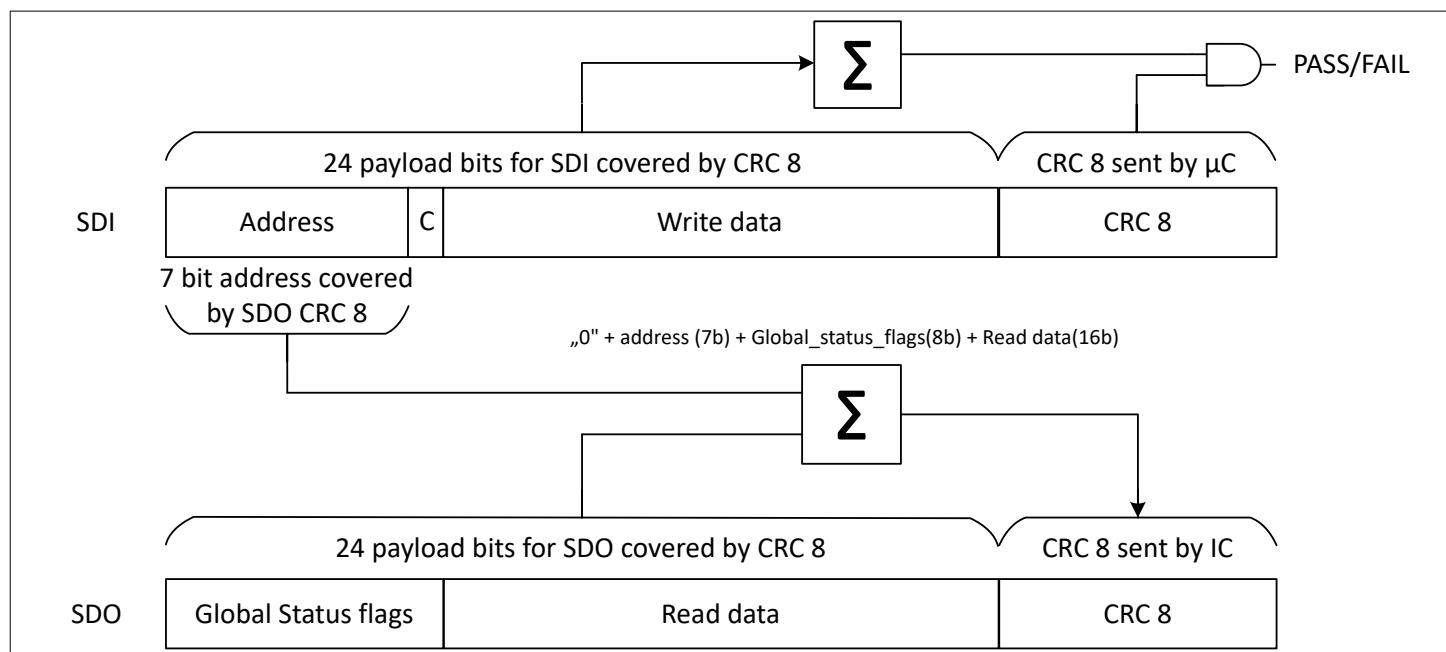

Figure 20 SPI CRC8 calculation for in-frame response (IFR)
- For SDO in-frame response the CRC8 is calculated for a 32 bit payload consisting of: dummy "0" bit + received 7 bit address (current frame) + SDO 8bit Global Status Flags + SDO 16bit read data, CRC8 bits excluded (see Figure 20).